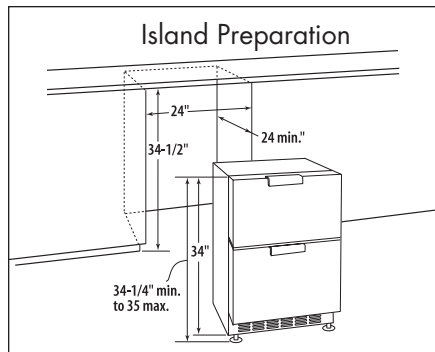

Figure 2.5
- The adjacent cabinets and counter top can be built around the unit as long as no top trim or counter top is installed lower than the top of the upper drawer. See Fig. 2.5.
- Determine the minimum height of the counter top opening (Fig. 2.5).
- Lower the front and rear leveling legs (Fig. 2.5) so the top of the drawer cabinet is 1/8" lower in the back of the cabinet and 1/2" lower in the front of the cabinet than the counter top opening.